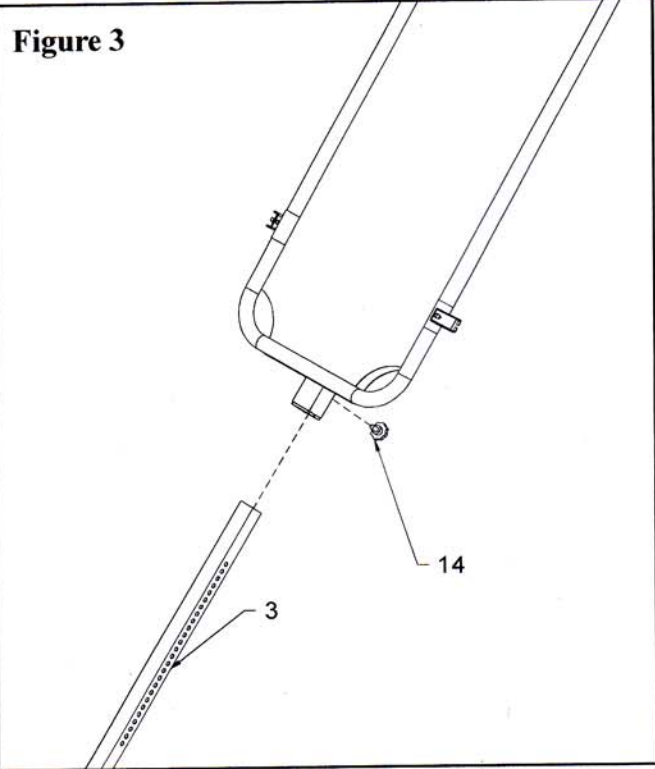

Figure 3
Slide the Adjustable Frame (3) into the tube of the Main Frame (4). Set your desired height using the Black Ball Pen (12) and secure in place with the Knob Bolt  $3/4"$  (14). (Figure 3)